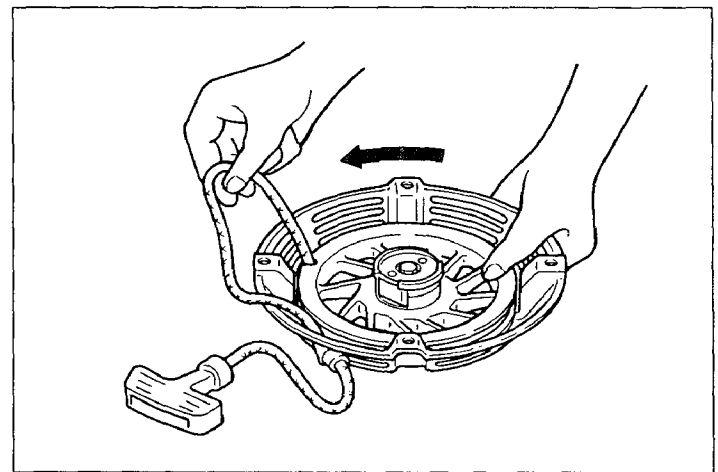

Fig. 76
- (5) Hold starter rope as shown in Fig.76 and turn reel 4 times in the arrowhead direction. Firmly press the reel not to allow reverse turn and pull starting knob to let starter rope out of starter case. Return knob slowly to let starter rope rewind in reel.